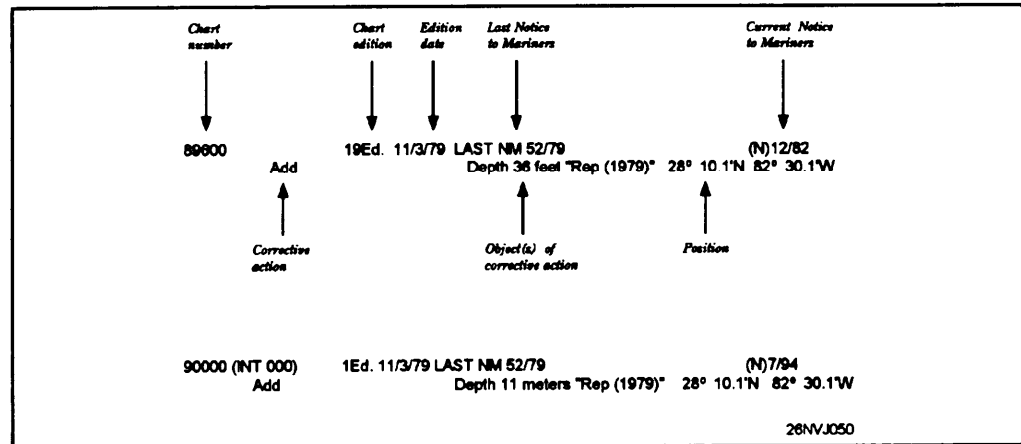

Figure 1-18. Notice to Mariners format.
Figure 1-18 illustrates the Notice to Mariners format for presenting corrective information affecting charts. A correction preceded by a star indicates that it is based on original U.S. source information. If no marking precedes the correction, the information was derived from some other source. The letter T preceding the correction indicates the information is temporary in nature, and the letter P indicates it is preliminary. Courses and bearings are given in degrees clockwise from 000° true.
3.	Charge all affected cards. To charge cards means to enter on the card the NTM number and year. See figure 1-18. This must be done for publications also and in the same manner.